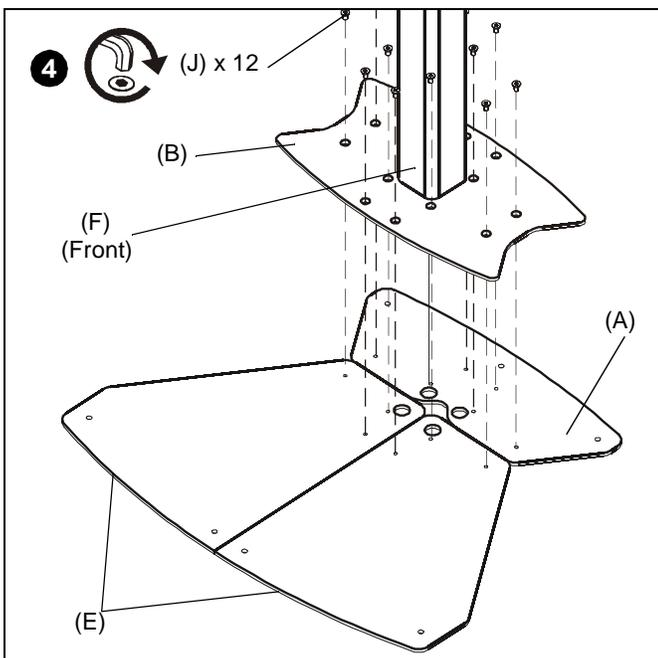

Figure 5
6. Place union base piece (B) with upright (F) on top of the three base pieces with the upright front facing base - long pieces (E). (See Figure 5)
7. Fasten lower base pieces (A and E) to union base section and upright assembly using twelve 5/16-18 x 1/2" flat head cap screws (J). (See Figure 5)